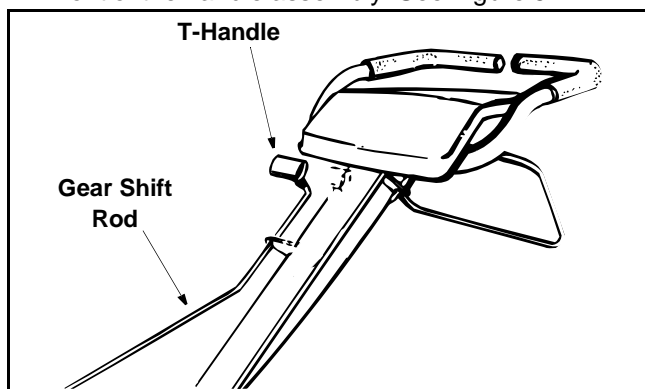

Figure 5
- Remove the T-handle, nut, hairpin clip, flat washer and rubber washer from the end of the gear shift rod. Slide the rod up through the bracket on the front of the handle assembly. See Figure 5.